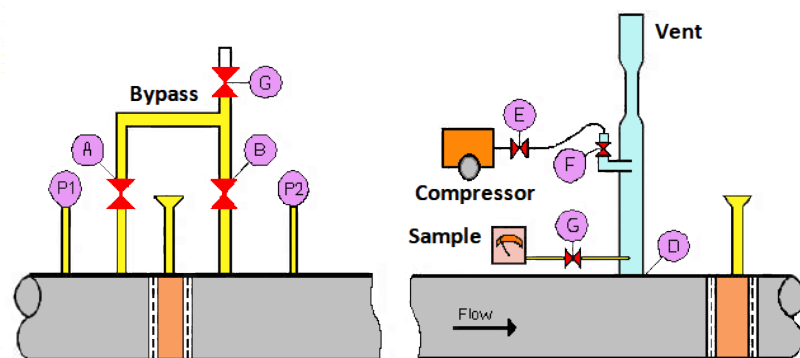

Figure 104- De-commissioning Using a Light Weight Purge Ejector
2. Decommission all riders by closing valves A and B and opening valve C on bypass see Figure 104.